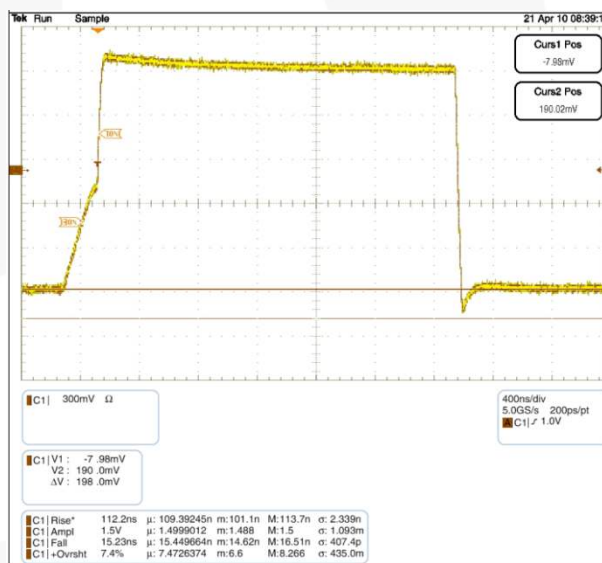

Figure 4. Waveform C: 600pF, Total RPU: 2.2KΩ
C = the bus capacitance. If the FXMAR2104 is attached to the master [on the A port] and there is a slave on the B port, the Npassgates act as a low resistive short between the ports until either of the port's VCC/2 thresholds are reached. After the RC time constant has reached the VCC/2 threshold of either port, the port's edge detector triggers both dynamic drivers to drive their respective ports in the LOW-to-HIGH (LH) direction, accelerating the rising edge. The resulting rise time resembles the scope shot in Figure 4. Effectively, two distinct slew rates appear in rise time. The first slew rate (slower) is the RC time constant of the bus. The second slew rate (much faster) is the dynamic driver accelerating the edge.